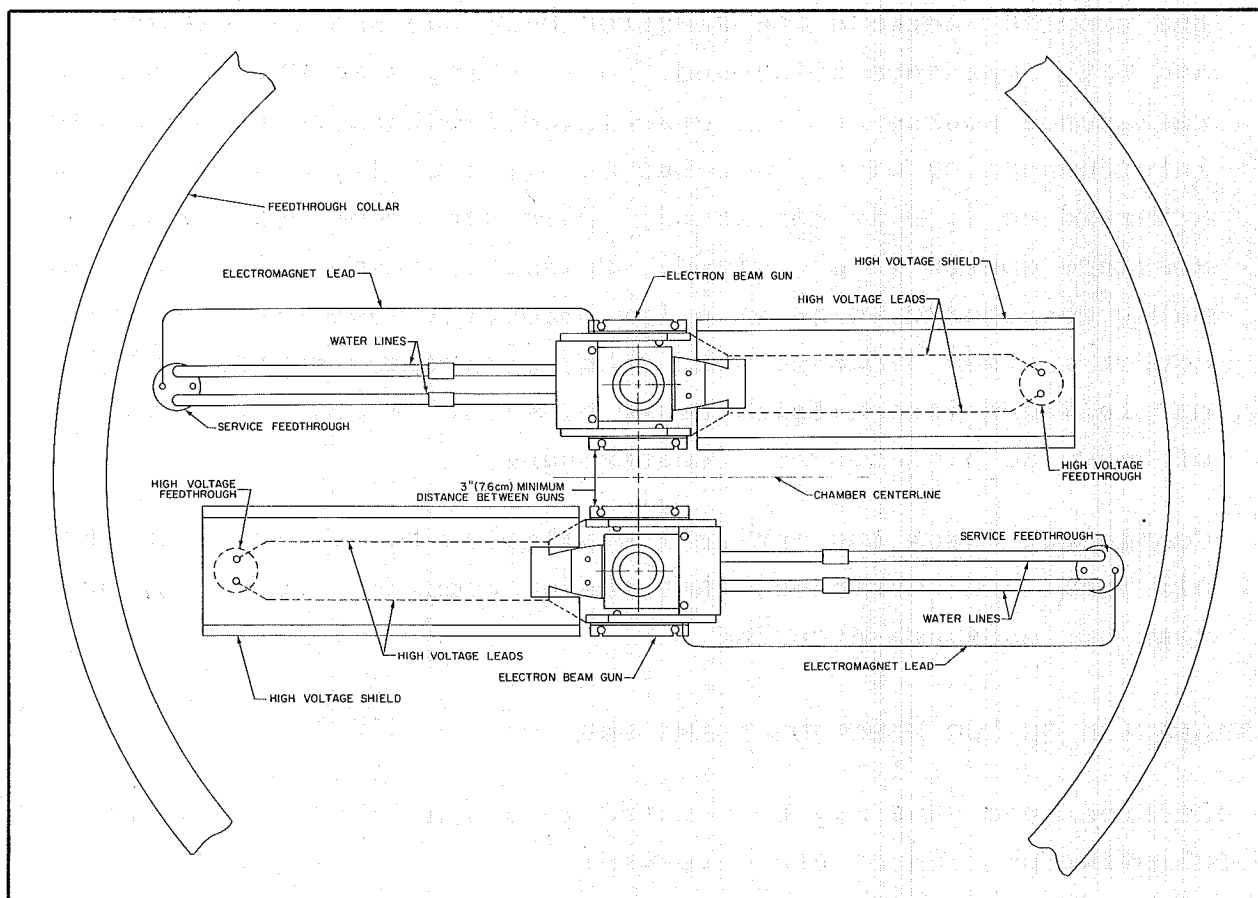

Figure 2-5. Typical Mounting of Two Electron Beam Guns in One Vacuum Chamber.
- (1) The guns must be mounted with at least 3 inches (7.6 cm) of separation, and they must be side-by-side with the hearths centered and with water lines facing in opposite directions as shown in Figure 2-5.
- (2) A separate high-voltage feedthrough must be provided for the second gun, and appropriate shielding must also be provided for the second set of high-voltage leads and associated feedthroughs. Follow the same precautions as described for installing only one gun.
- (3) Plumb the water lines for both guns in series so that the normal water supply will be sufficient for both guns. A service feedthrough for each gun will generally result in the simplest installation. With more complex internal plumbing, the two guns can be installed with a single Sloan Electron Beam Service Feedthrough. If Y-axis deflection is to be provided, another low-voltage feedthrough will be required.